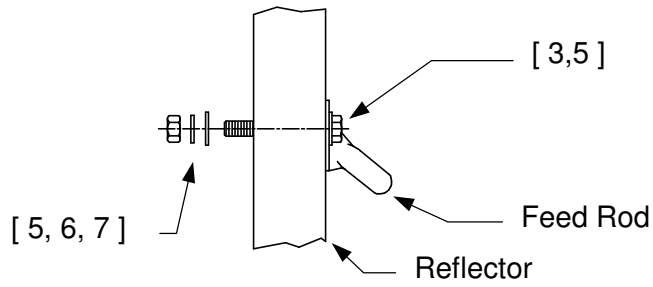

**FIGURE 2**
- A). Attach right and left feed rods to the reflector with (items 3, 6, 7) and with (2) of (item 5). See Figure 2 and Detail A.